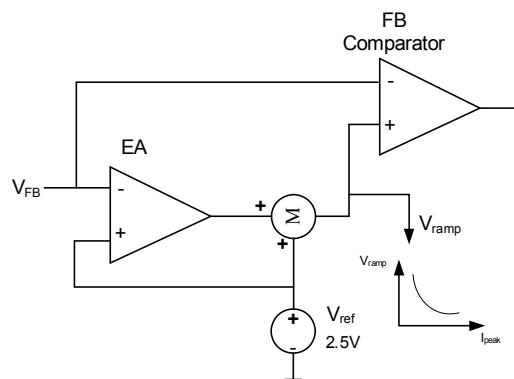

Figure 5: EA and Ramp Compensation
To improve load regulation, the MP150 implements an error amplifier (EA) compensation function (Figure 5). The MP155 samples the feedback voltage 6 $\mu$ s after the MOSFET turns off. EA compensation regulates the 2.5V reference voltage with the load, thus improving the power module regulation.
An internal ramp compensation circuit precisely maintains the output voltage. An additional exponential voltage sinking source pulls down the feedback comparator's reference voltage as shown in Figure 5. The ramp compensation is relative to the load conditions: Under full-load conditions, the compensation is ~1mV/ $\mu$ s; with a decreasing load, the compensation increases exponentially.